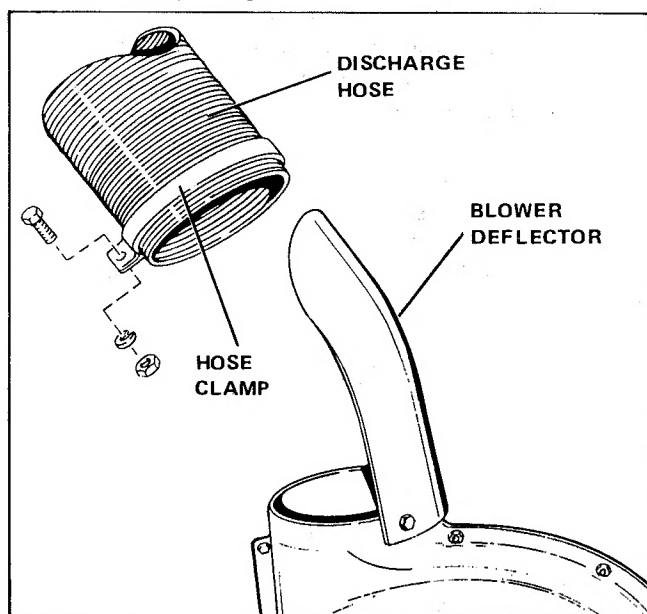

Figure 4. Discharge Hose Installation
9. Place the discharge hose over the blower deflector and attach it to the blower housing with a hose clamp. Hose will be tight and the best method of installation is to use a twisting action. Tighten screw. (See figure 4.)